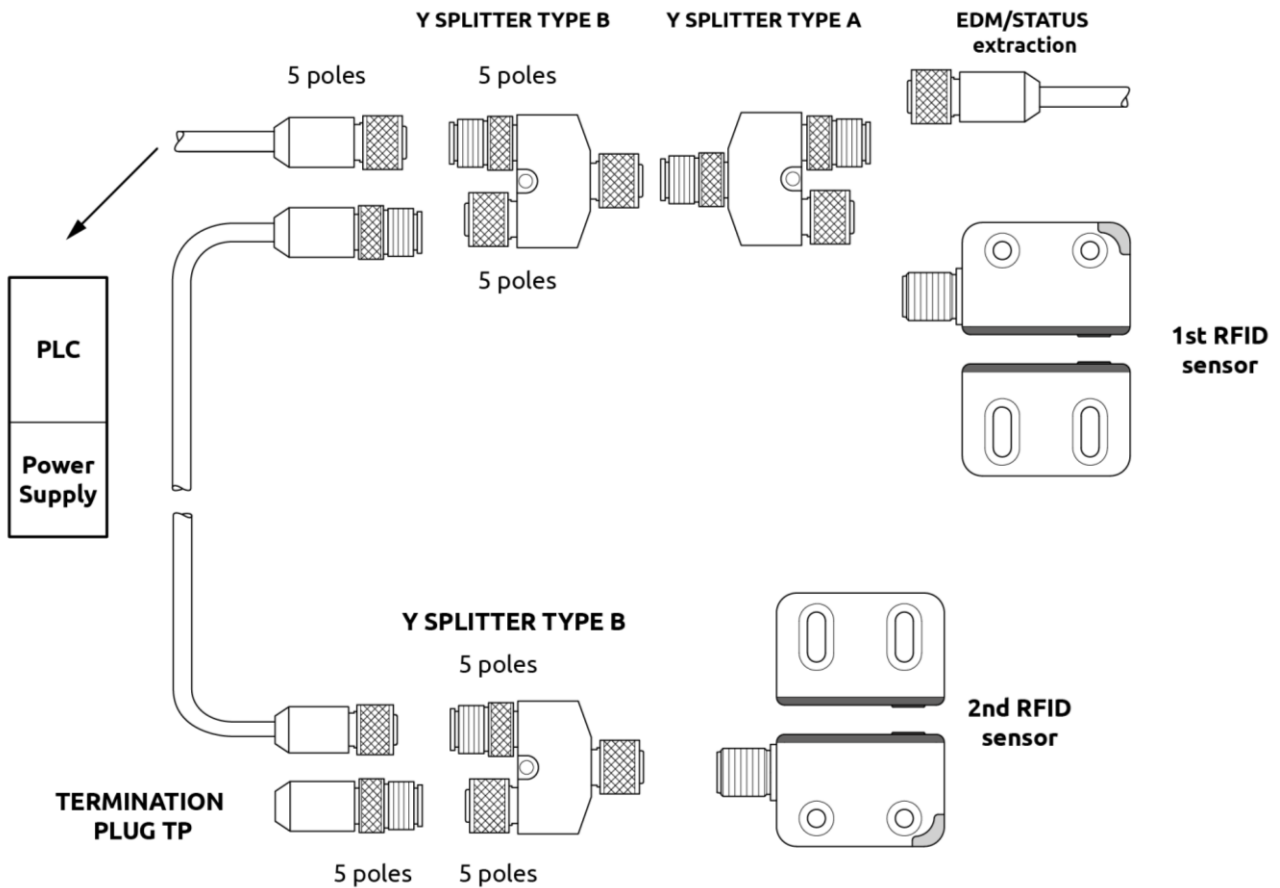
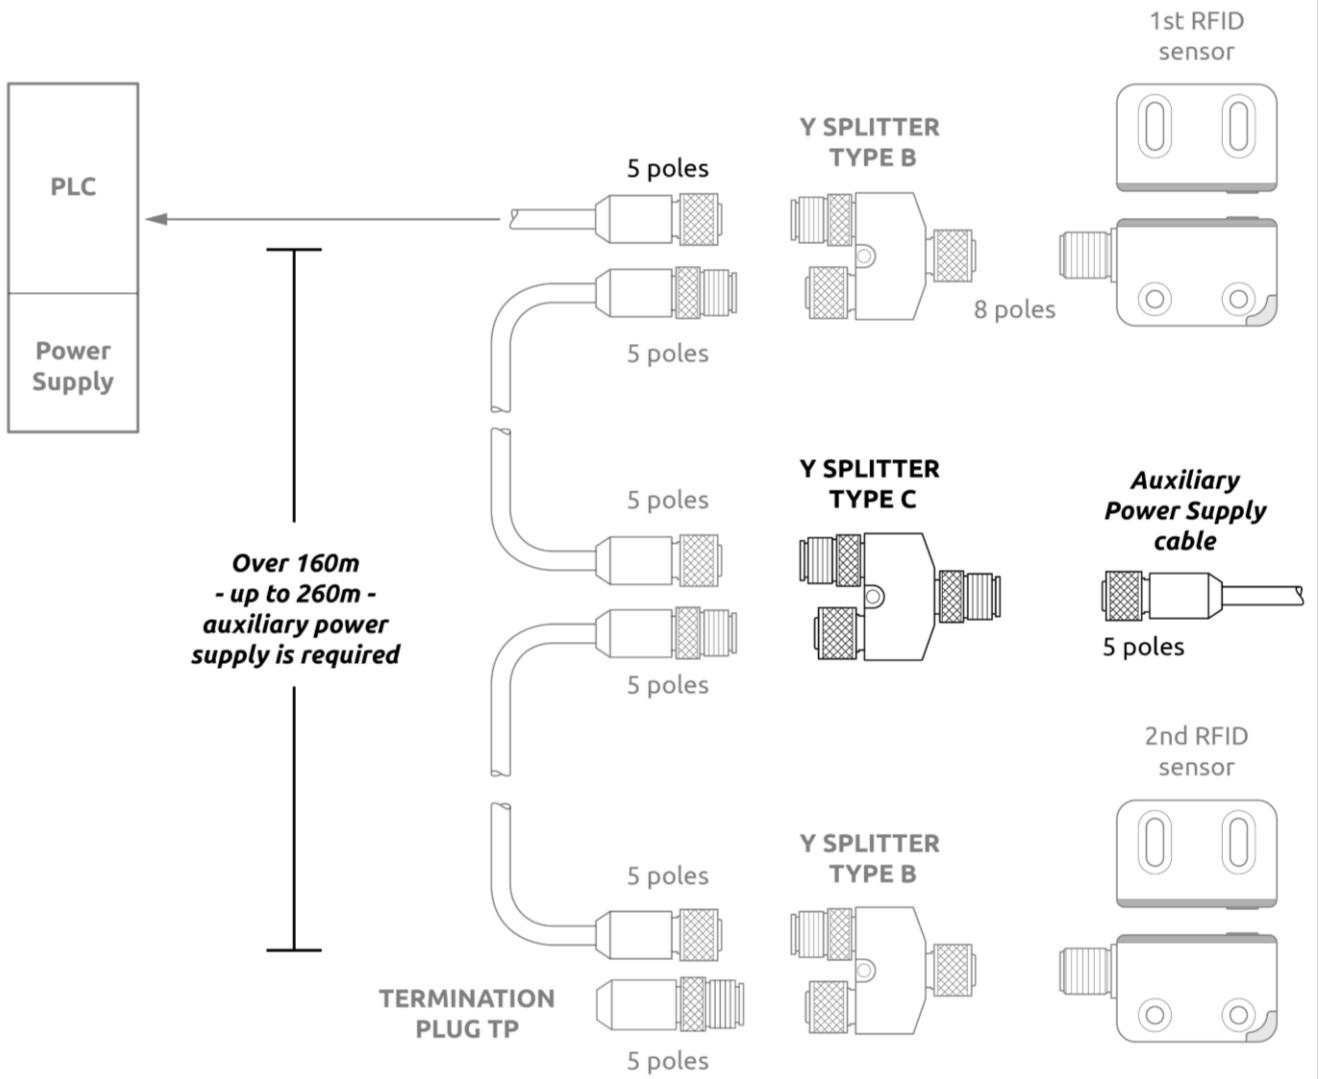

Figure 21 - Serial mode with STATUS / EDM (R-Safe RFID Pro)
Figure 23 - Auxiliary power supply (R-Safe RFID Pro)
- ➔ For a quicker and safe connection, Reer recommends using its splitter connectors as showed in Figure 19, Figure 21 and Figure 23.